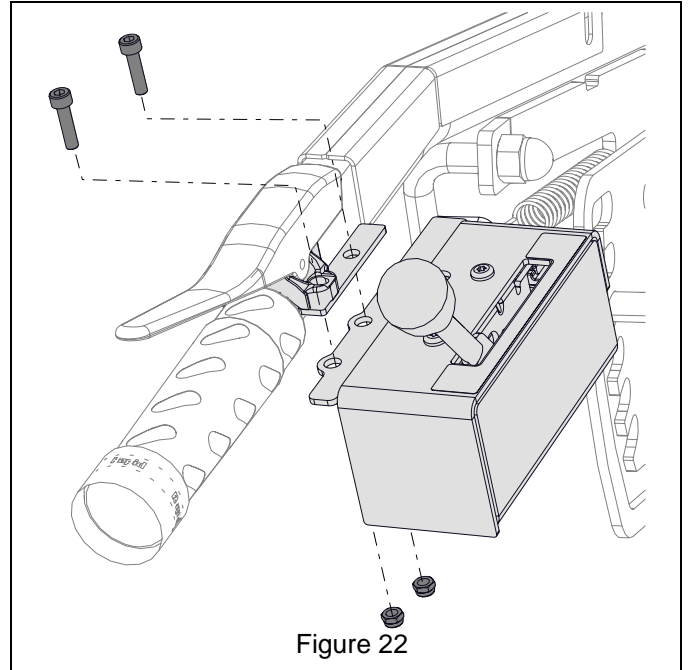

Figure 22
12. Position control box on bracket to align with holes and attach it with two socket-head-cap screws and two M5 locking nuts. See Figure 22.